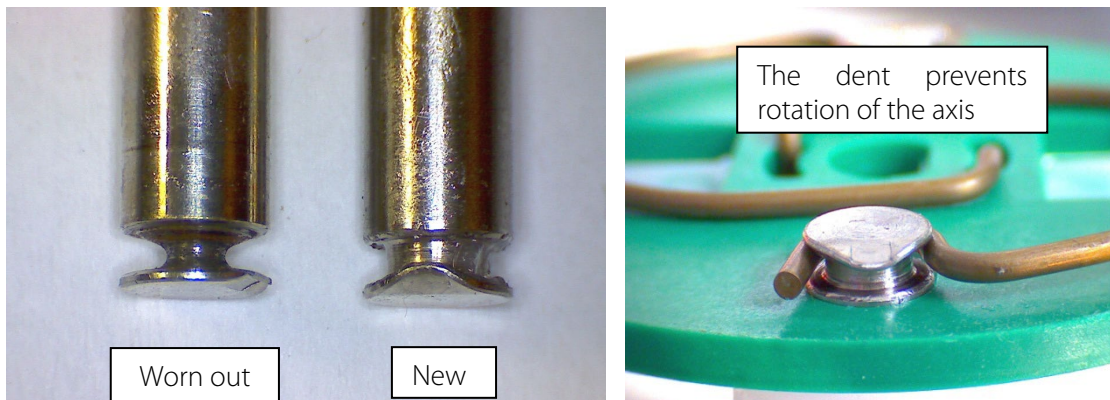

Figure 13 **Check of axes and rolls**
3. Remove the pump head ② from the motor shaft
5. The removal of the springs 4 pcs.) ③ away from the driver is easily possible without the aid of any tools. For this take spring out of the groove ④ near to the shaft bore
6. Dismount roller axes and change contact pulleys. Take care that axes are not worn out by the springs and have damaged the dent at the axes front end. In case of abrasion the axes have to be changed (see Figure 13).
- Make sure that contact pulleys move easily on the axis. After remounting the axis with contact pulley into the driver the spring has to be mounted as shown as in Figure 13. Please pay attention to the alignment of the dent.